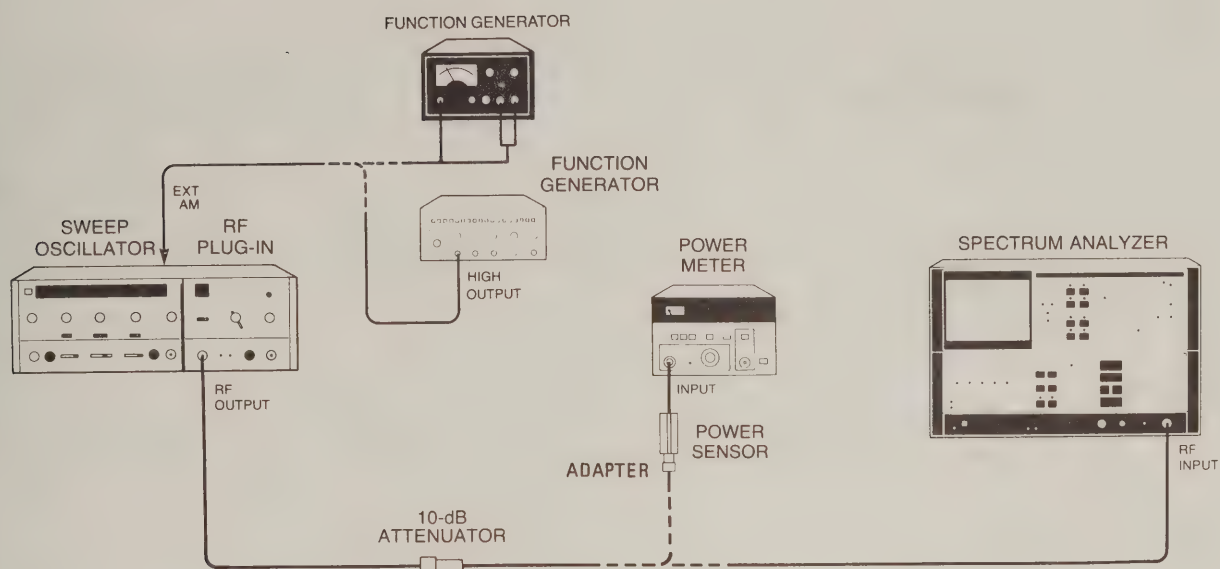

Figure 4-20. Amplitude Modulation Test Setup
- a. Connect equipment as shown in Figure 4-20 with DC Power Supply connected to EXT AM. Allow 30 minutes warm-up time.